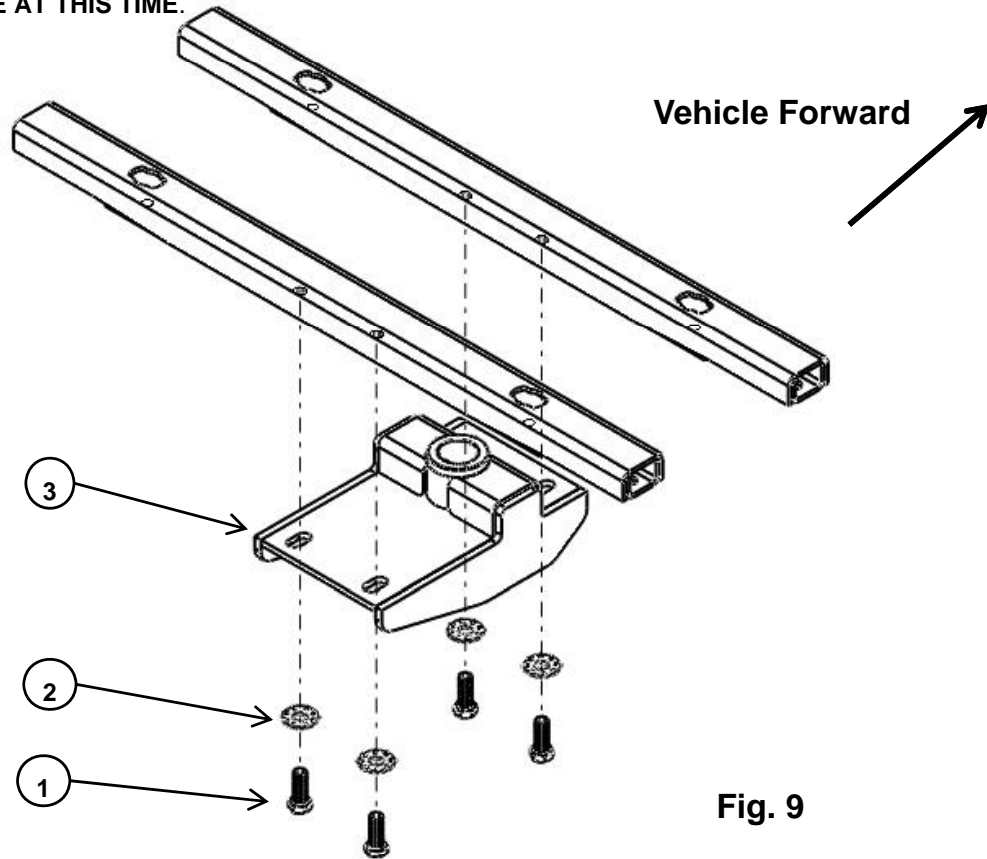

Fig. 9
3. Place the REESE™ Elite Series Gooseneck Hitch (As shown in figure 9) using the 3/4" hex bolts(1) and 3/4" conical washers(2), slide them into place through the slots found in the Gooseneck center section(3).